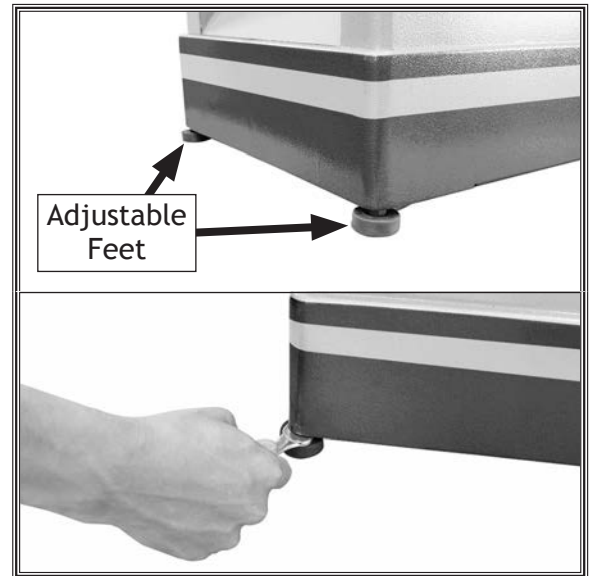

Figure 11. Leveling jointer.
5. Adjust feet (see **Figure 11**) as necessary until jointer is stable without any rocking or wobbling.